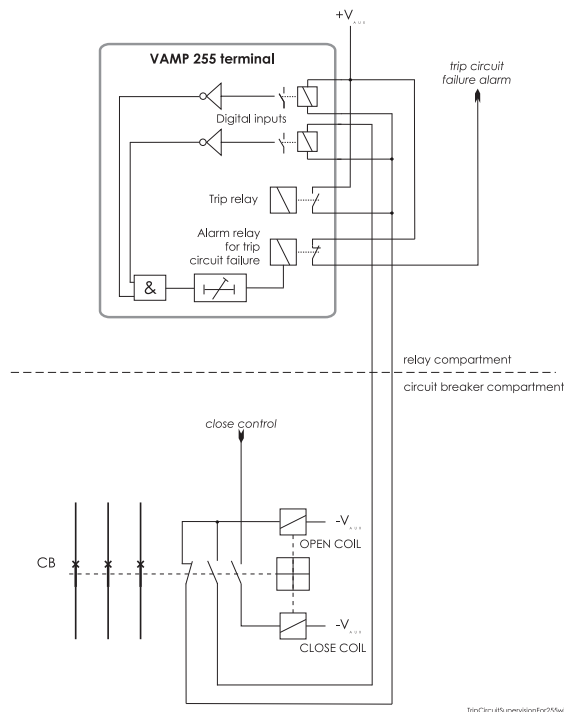

Figure 7.5.2-1. Trip circuit supervision with two digital inputs.
- The first digital input is connected parallel with the trip contacts (Figure 7.5.2-1)
- Both inputs are configured as normal closed (NC).